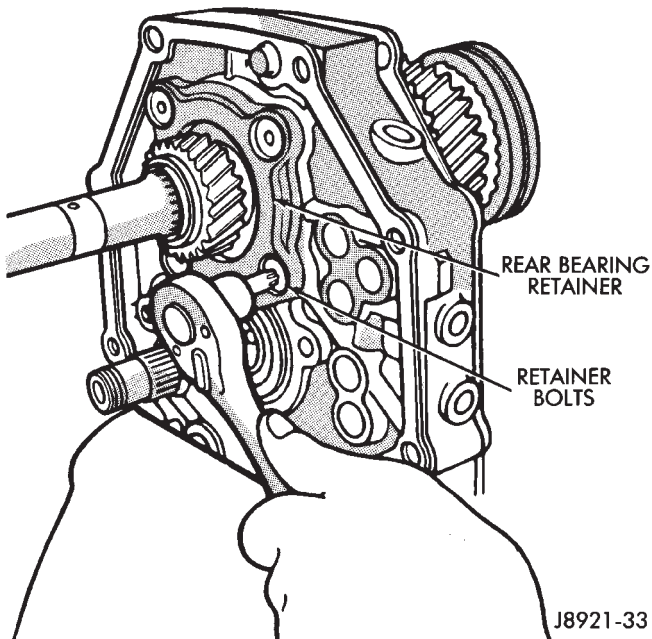

Fig. 25 Removing Rear Bearing Retainer
(7) Remove rear bearing retainer bolts with appropriate size torx bit and remove retainer (Fig. 25).